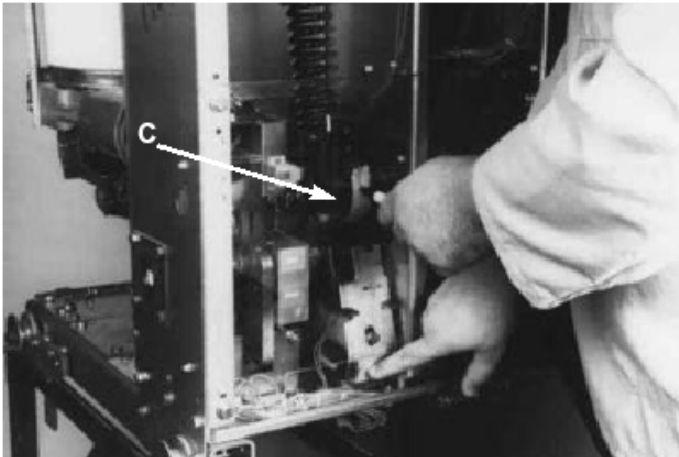
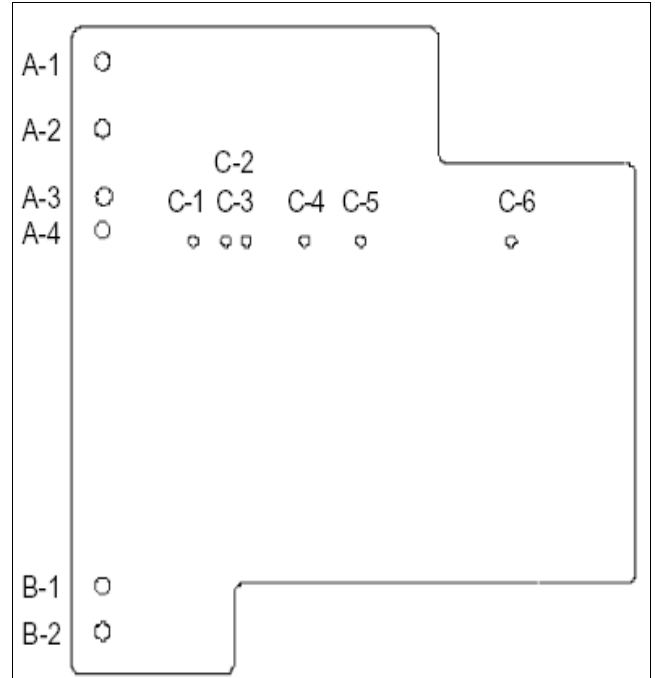

Figure 6-12 Manually Closing Circuit Breaker with Marker in Hole "C".
Figure 6-19 Front View of CloSure™ Tool Showing Mounting/Testing Hole Locations (6352C49H01)
General Information: The CloSure™ Test can be performed on the VCP-W, VCP-WG, VCP-WGR VCP-WR, VCPW-ND, DHP-VR, W-VACR, and W-VAC lines of vacuum circuit breakers Refer to Table 6.4 a for list of circuit breakers. If the CloSure™ travel obtained is as specified, the mechanism performance is satisfactory. If the CloSure™ travel does not conform as shown in Figure 6-12, contact Cutler-Hammer for further information. (See Step 13).
Step 5 - Mount the transparent CloSure™ Test Tool with two bolts and washers. Refer to Figures 6-19, 6-20 and Table 6.4 for appropriate mounting holes. Hand tighten the bolts (Figures 6-9, 6-10, 6-19 and 6-20).
Step 6 - A Sanford® Sharpie® black fine point permanent marker, item no. 30001, is recommended for this next step. Place the marker tip in the proper hole ("C"). Refer to Figure 6-19 and make a heavy mark on the tape as shown in Figure 6-12.
Step 8 - While holding the marker tip on the tape, close the breaker (Figure 6-12).